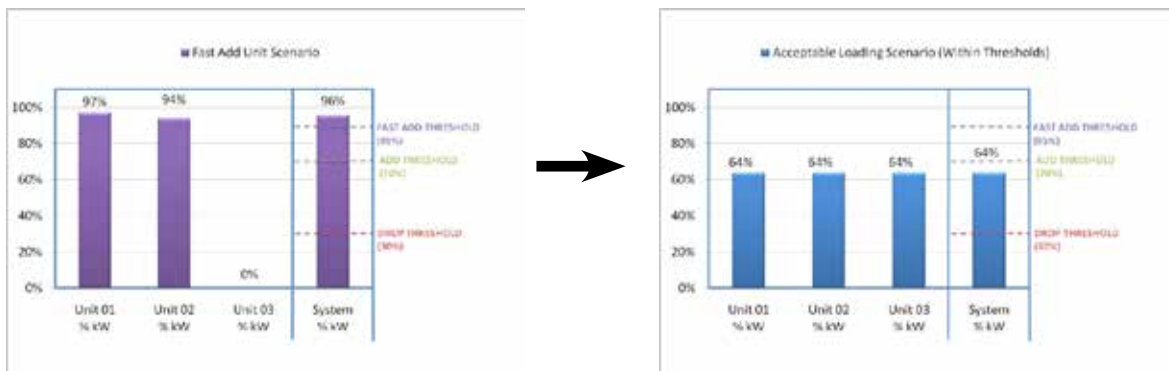

Figure 37.20 – LSLD Fast Add Unit Scenario Example
- The LSLD system % kW rises above the *LSLD Fast Add Unit Percentage Threshold* (setpoint) for the corresponding time delay [(*LSLD Fast Add Unit Delay Time* (setpoint) (Figure 37.20)]